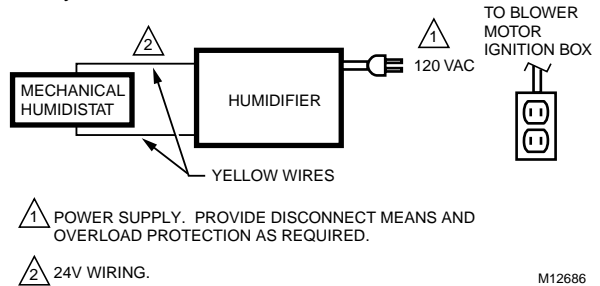

Fig. 6. Typical wiring diagram for humidifier using fan control to cycle blower motor fan and humidifier simultaneously.
2. Connect only the two yellow wires to the humidity control (red wire connections are not used for mechanical humidity control). See the typical wiring diagrams in Fig. 6 through 8.